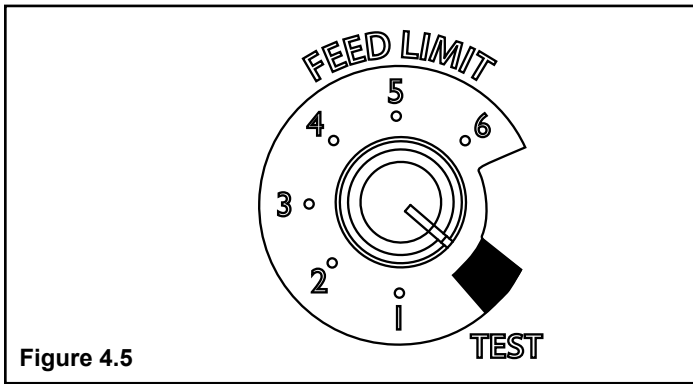

Figure 4.5
1. If starting after an empty hopper, turn Feed Adjuster to "TEST" (for one 60 second cycle). This will charge pellets into the auger tube and also allow you to check the motors for operation. Figure 4.5.